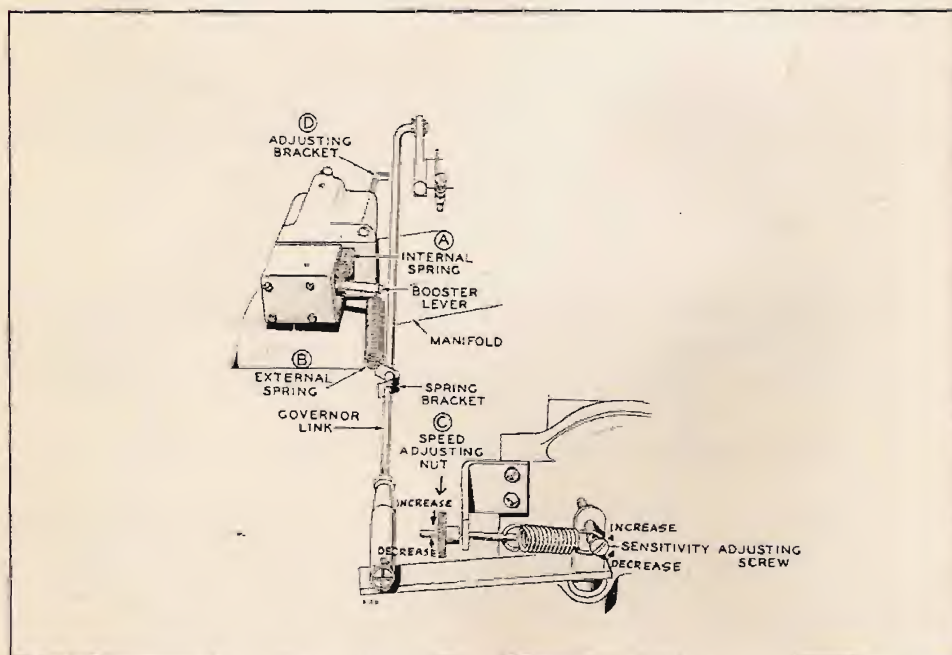

Fig. 20 Governor Booster
The booster is mounted on the intake manifold and is operated by engine vacuum through a small passage in the manifold. See Fig. 20. When the plant is operating at about half load or less, the engine vacuum is sufficient to cause the diaphragm to overcome the tension of the internal booster spring (A). Under these conditions, there is no tension on the booster external spring (B) and the booster does not affect the governor operation.
2. With the plant operating at no load, disconnect the booster external spring (B), Fig. 20. Turn the speed adjusting nut (C) to obtain a frequency reading of 60 to 61 cycles for a 60 cycle plant (50 to 51 cycles for a 50 cycle plant). The voltage should be within the limits shown in the table IV, according to the rated plant voltage shown on the plant nameplate.
3. Connect a full electrical load to the generator. As the electrical load is connected, the governor should act smoothly and quickly to keep the voltage within the limits in the table. However, there should be not more than a spread of 3 cycles between the no load frequency and the full load frequency. For example, if the frequency was 60 cycles at no load, then the full load frequency should be not less than 57 cycles. If the cycle spread is more than 3 cycles, turn the sensitivity screw, Fig. 20, in (clockwise) a half turn. This will, in turn, necessitate a slight compensating speed nut adjustment. Repeat the process until the cycle spread is within 3 cycles and voltage is within the limits shown in the table.
8. After satisfactory performance has been attained under various loads, the booster can be connected. With the plant operating at no load, connect the booster external spring, Fig. 20. Adjust the bracket on the governor link just to the position where there is no tension on the spring.
9. Now connect a full electrical load to the generator. The frequency should stabilize at a point 1 to 2 cycles HIGHER THAN the no load frequency. For example, if the no load frequency is 60 cycles, the frequency under full load should be 61 to 62 cycles. If the rise in frequency is more than 2 cycles, lessen the internal spring tension. If there is a drop in the frequency, increase the internal spring tension. Adjust the tension of the internal spring by pulling out on the spring bracket (D), and moving the pin to a different hole.
12. The booster requires little maintenance other than using a fine wire to clean the small hole in the short vacuum tube which fits into the hole in the top of the engine intake manifold. Do not enlarge this hole. If there is tension on the external spring Fig. 20, when the plant is operating at no load or light load, it may be due to improper adjustment, restricted hole in the small vacuum tube, or a leak in the booster diaphragm.